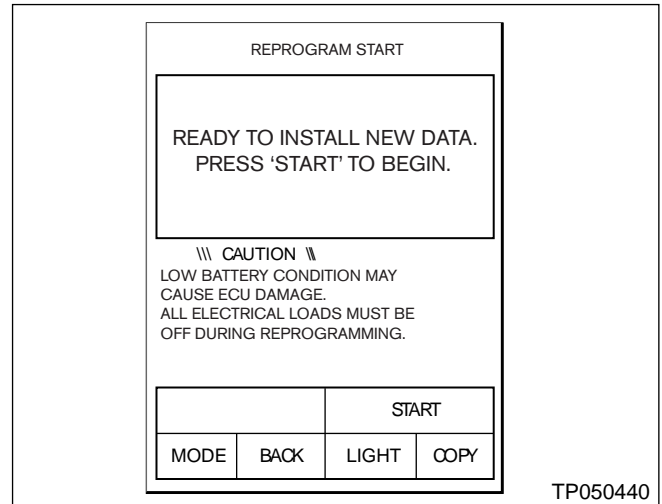

Figure 18
4. The "**REPROGRAM START**" window should appear (see Figure 18).
5. Press **START**. See Figure 18, previous page.